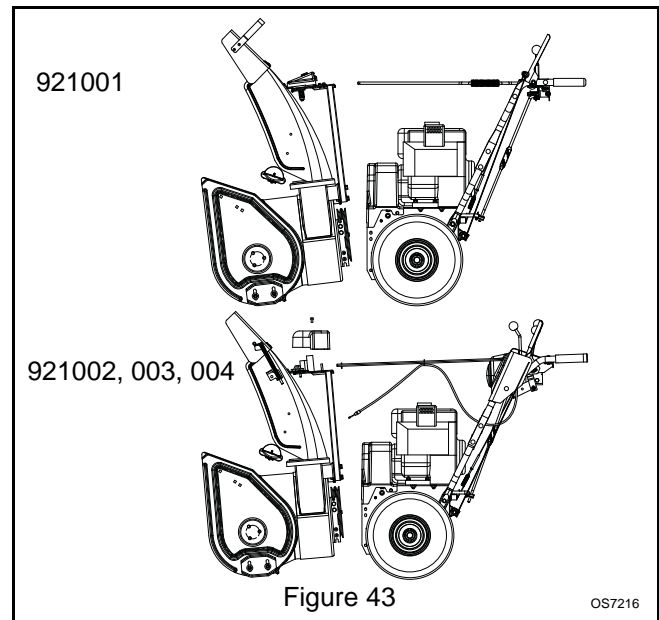

Figure 43
2. Remove belt cover and chute gear cover (921002, 003, 004) (Figure 43).
8. Remove hex bolts securing housing to frame (two on each side). Tip housing and frame apart on pivot pin (Figure 43).